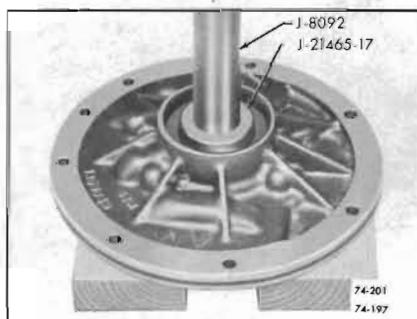

Figure 74-197
14. Check oil pump bushing for nicks, severe scoring or wear. If bushing replacement is necessary remove as follows: Support pump on wood blocks using Tool J-21465-17 and Drive Handle J-8092. Press bushing out of pump body. See Figure 74-197.